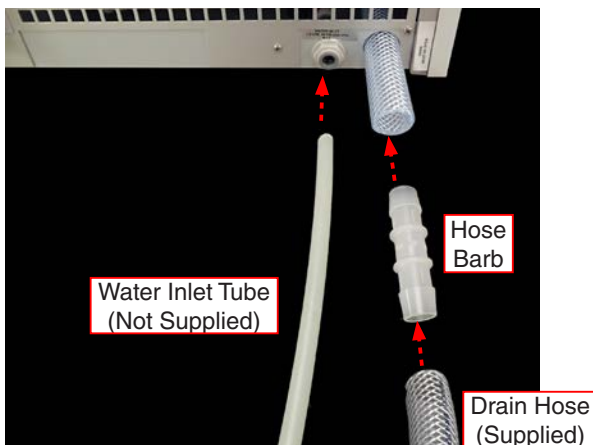
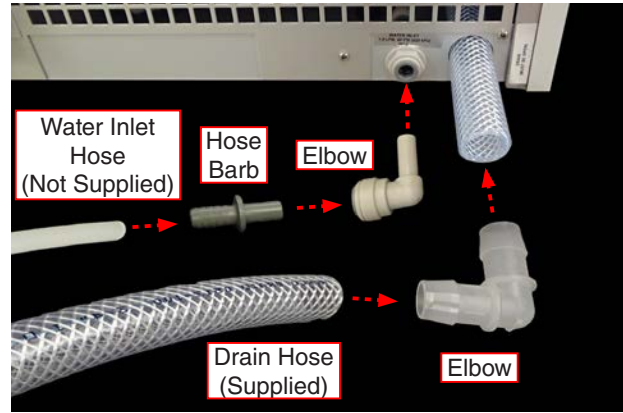

Figure 6.3e: Water connections - Configuration 1.
Figure 6.3h: Water connections - Configuration 4.
- Water inlet and drain fittings to meet various connection configurations are supplied (Figure 6.3e to Figure 6.3h).